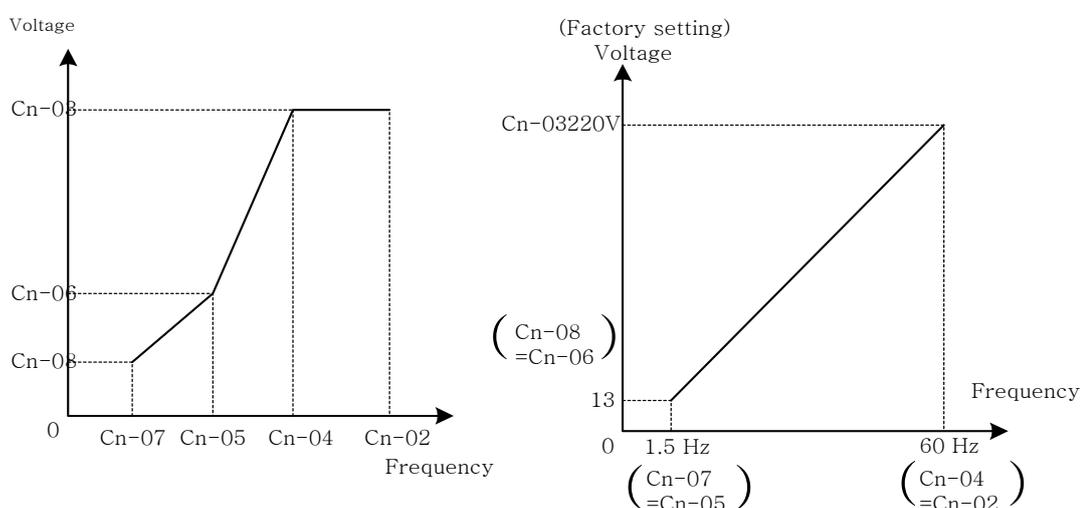

Fig 18 User-defined V/F curve
(1) Input voltage setting (Cn-01)
(2) V/F curve parameter settings (Cn-02~Cn-08)
- Setting Cn-02~Cn-08 can be set by the user when Sn-02 has been set to “15”. The user-defined V/F curve can be specified through the settings of Cn-02~Cn-08 as shown in Fig 18. The factory setting is straight line for the V/F curve. (Cn-05=Cn-07, Cn-06 is not used) as shown below (220V/60Hz case).